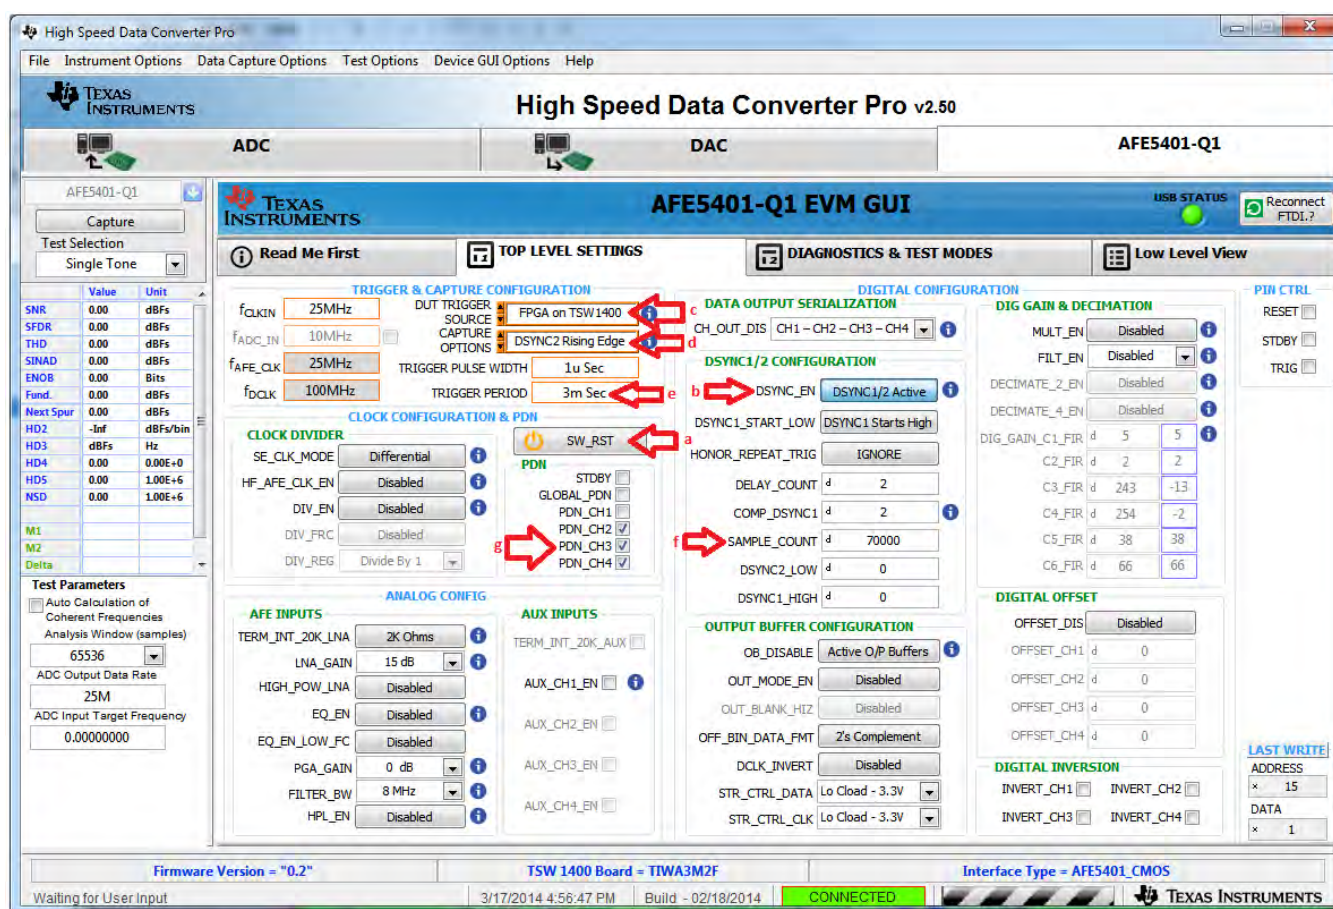

Figure 75. FPGA DSYNC2 Rising Edge Triggered RAMP Capture (a)
The receiver implementation is designed to begin data capture on the rising edge of a DSYNC2 output signal. From the **TOP LEVEL SETTINGS** tab of the *AFE5401-Q1 GUI*, perform the following procedures as shown in Figure 75:
- Set **TST\_PAT\_MODE** to *Full Scale RAMP* on the **DIAGNOSTICS & TEST MODES** tab of the GUI (not shown in Figure 75).